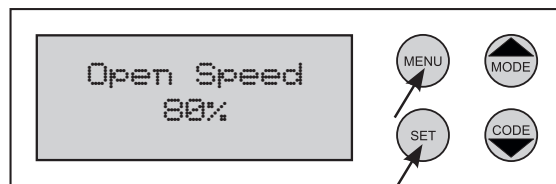

Fig. 35
- 1 Press **MENU** for 3 secs then press **SET** to cycle through to Open Speed or Close Speed as required (Fig. 35 & 36).